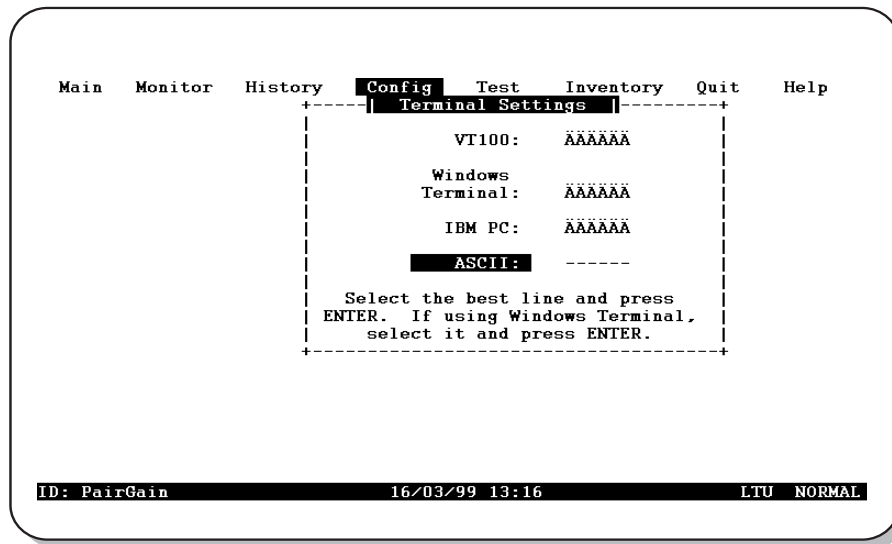

Figure 19. Config Terminal Settings Menu
- 1 Type **T** at the *Config* drop-down menu to display the *Config Terminal Settings* menu (Figure 19).